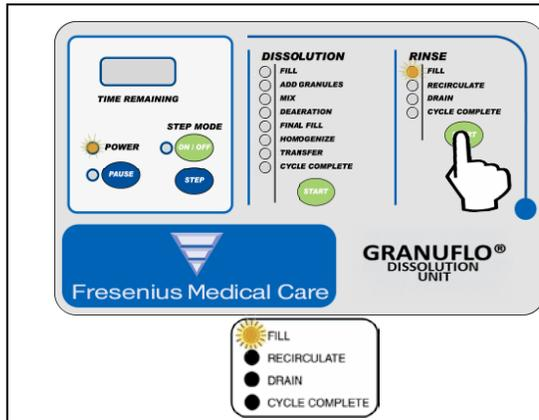

Figure 2
2. The *RINSE CYCLE* consists of two complete *RINSE* Operations. Press the Rinse side *START* button. The Fill Indication Light will illuminate indicating the *RINSE CYCLE* has started and the GranuFlo I Dissolution Unit is in *FILL* Operation (Figure 2). Verify that the tank is filling and that the water level stops at the 25-Gallon Sensor. Lift the Access Lid and look into the tank to verify that the tank is filling.